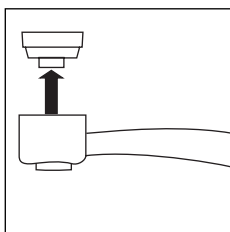

fig. 27
- Remove the filter with frother from the filter holder (fig. 27).